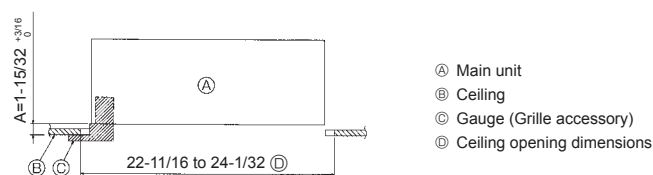

Fig. 4-6
- When the main unit can not be aligned against the mounting plate on the ceiling, it is adjustable owing to a slot provided on the mounting plate. (Fig. 4-6)